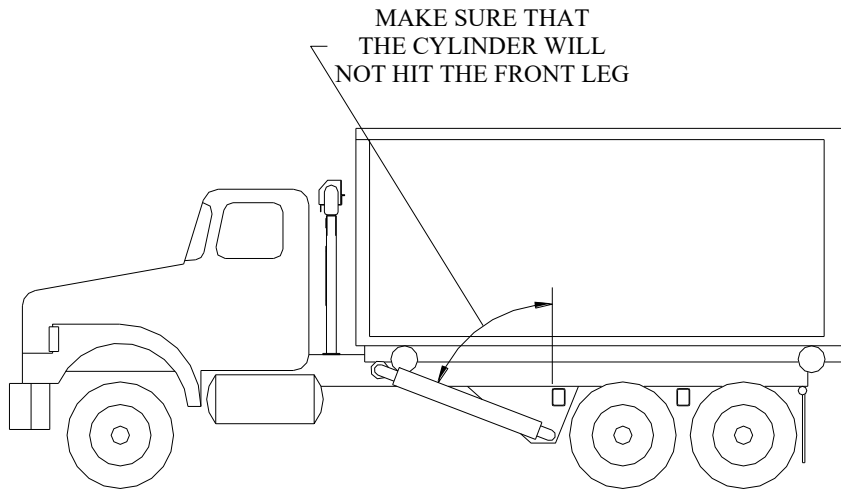

Figure 2
- 6) To double-check that these legs will not interfere with the tilt cylinders, you will need to raise the tilt bed to the maximum tilt. The legs need to be behind the cylinders at this point. (Refer to **Fig. 2**)